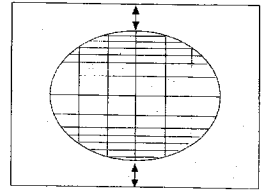

Fig. 10
- Adjust the S-correction to obtain a balance between upper, lower and center (fig. 10).